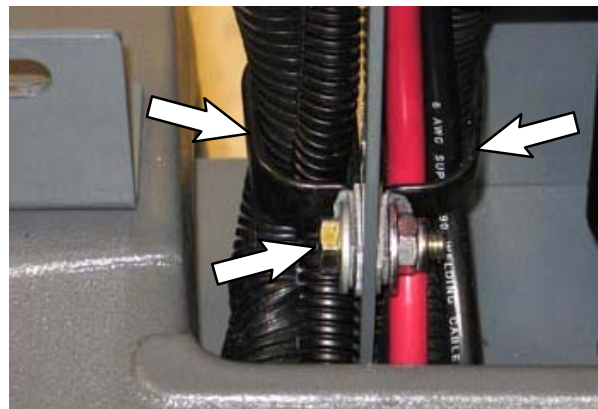

FIG. 23
24. Remove the hardware from the two lower cable clamps on the steering channel. Leave cable clamps loose on wire harness. (Fig. 23)
NOTE: If necessary, remove upper cable clamp located above clamps in Fig. 23 to loosen main wire harness from steering channel.